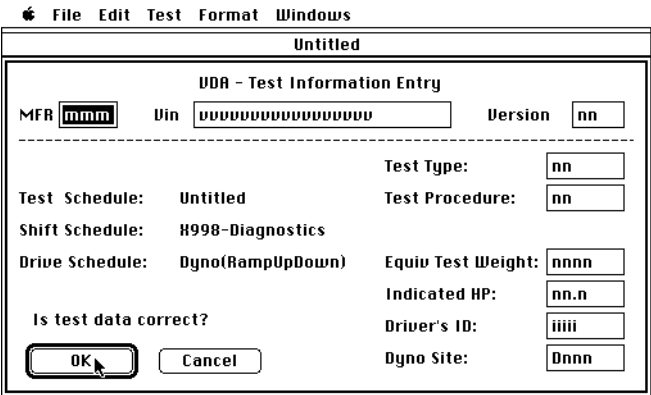

Figure 10
7.25.11 Click on the “OK” button of the “VDA - Test Information Entry” screen (see figure 10).